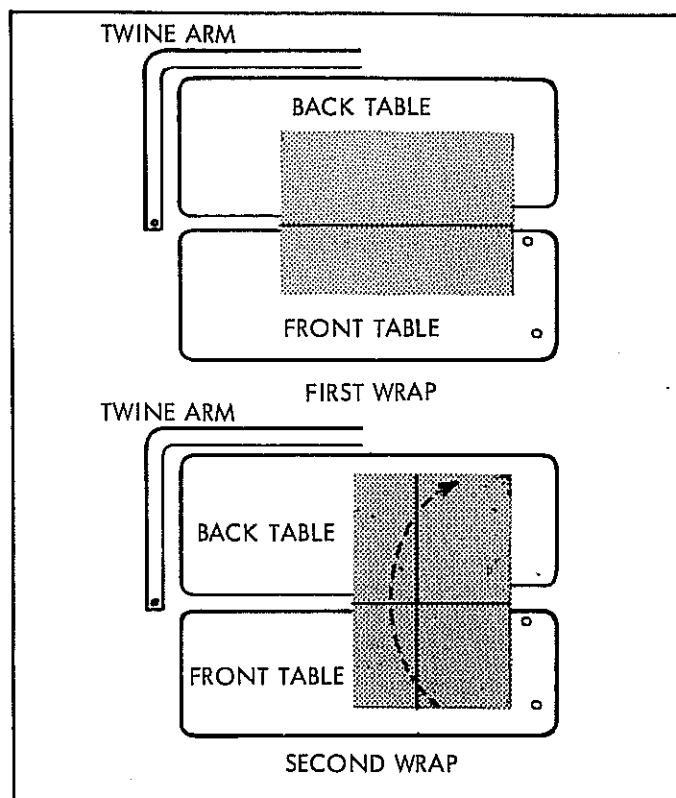

Figure 29. Positioning Package for Cross-Tie Wraps
5. Reposition package IN CLOCKWISE DIRECTION (figure 29) in tying machine.